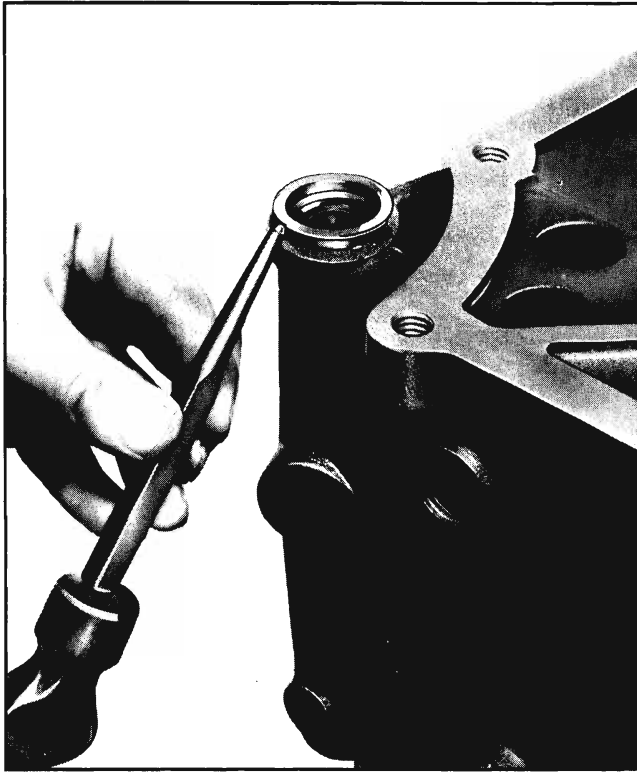

Fig. 7-33 Removing Seal
15. Remove manual shift shaft seal (Fig. 7-33).